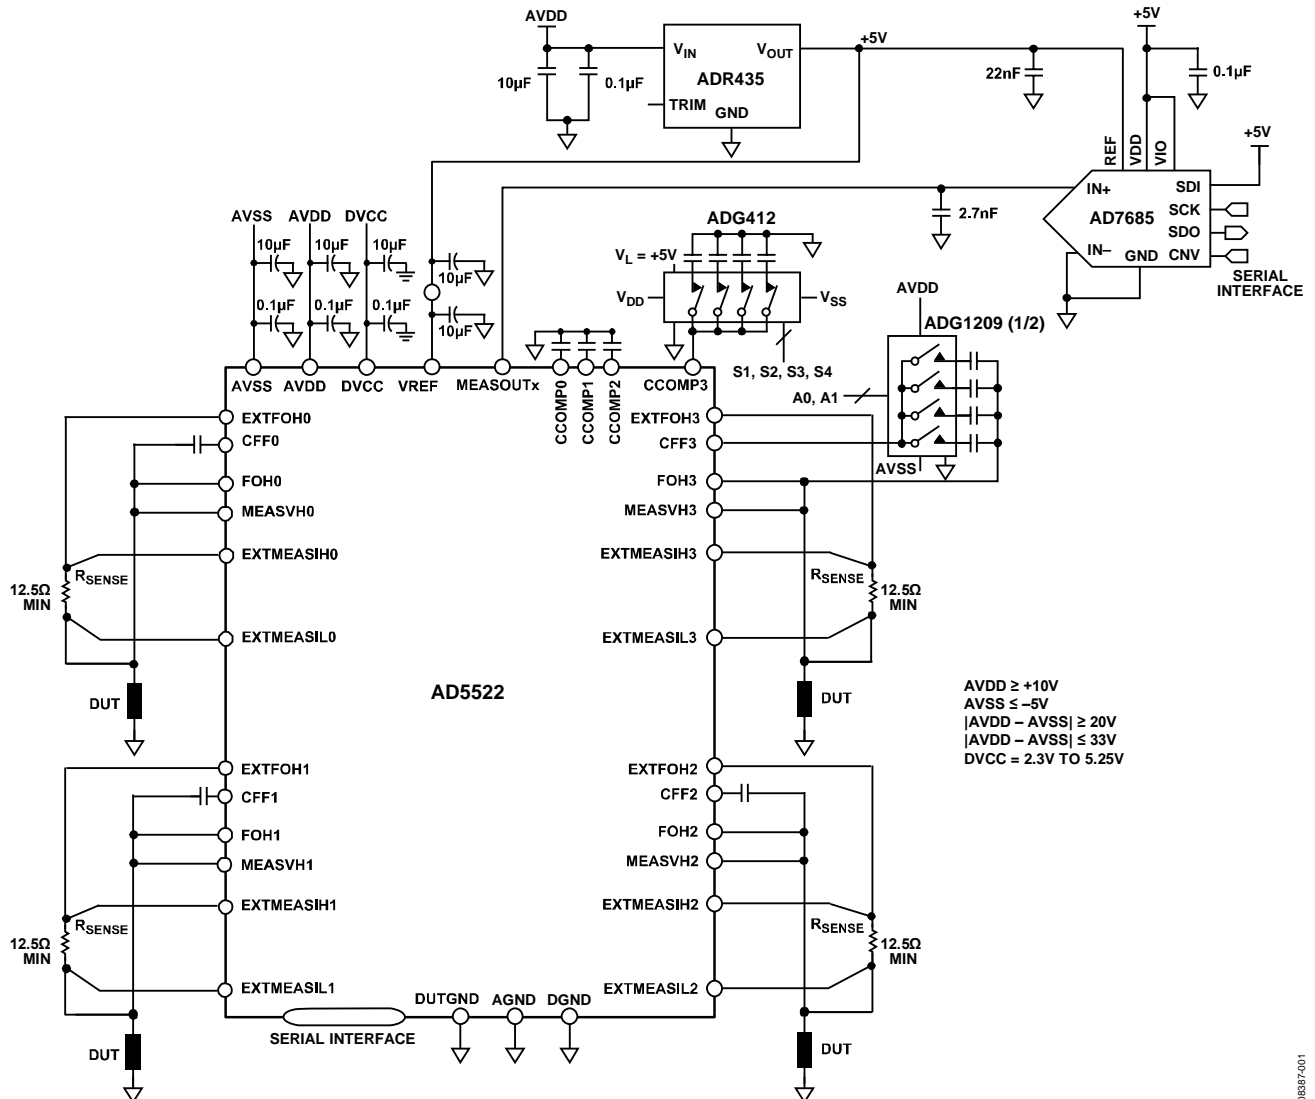

Figure 1. PMU and Supporting Components (Simplified Schematic)
Changes to Figure 1 1
- An ADC can be shared across multiple channels. In Figure 1, one AD7685 ADC is shared across the four PMU channels. In some applications, an ADC can be shared across many more channels, sometimes 8 or 16 PMU channels.
The circuit must be constructed on a multilayer printed circuit board (PCB) with a large area ground plane. Proper layout, grounding, and decoupling techniques must be used to achieve optimum performance (see Tutorial MT-031, Grounding Data Converters and Solving the Mystery of "AGND" and "DGND" and Tutorial MT-101, Decoupling Techniques). Note that Figure 1 is a simplified schematic and does not show all of the necessary decoupling.